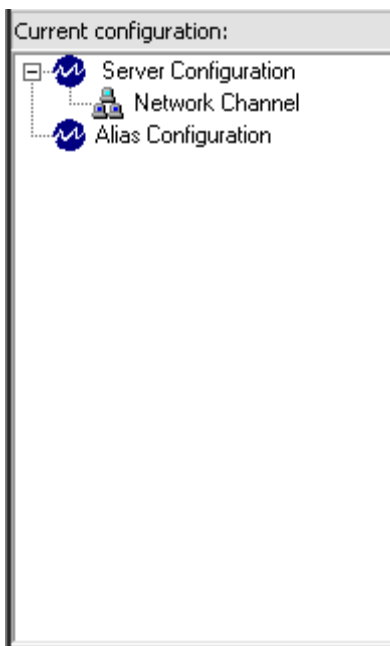

Figure 15 - New Network Channel Object
8. Click on the **OK** button. The object is created and appears as a child of the **Server Configuration** item as shown in Figure 15.